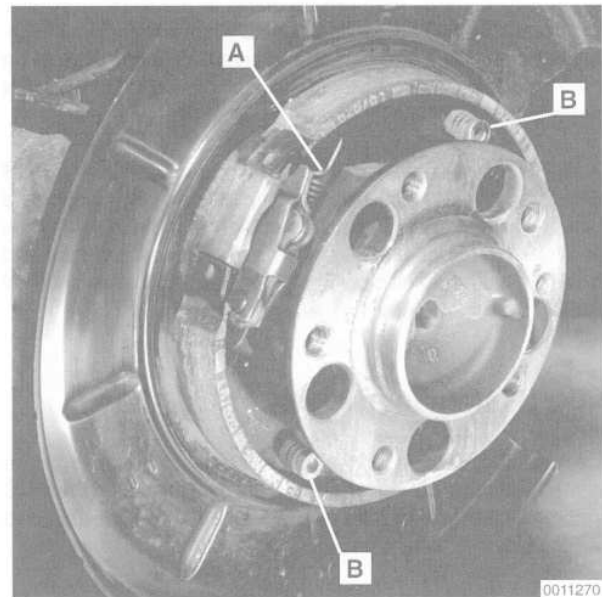

Fig. 18. Parking brake upper return spring (A) and shoe retainers (B).
- Unhook the upper return spring from the brake shoes. Remove the shoe retainers by pushing them and rotating 90°. See Fig. 18.